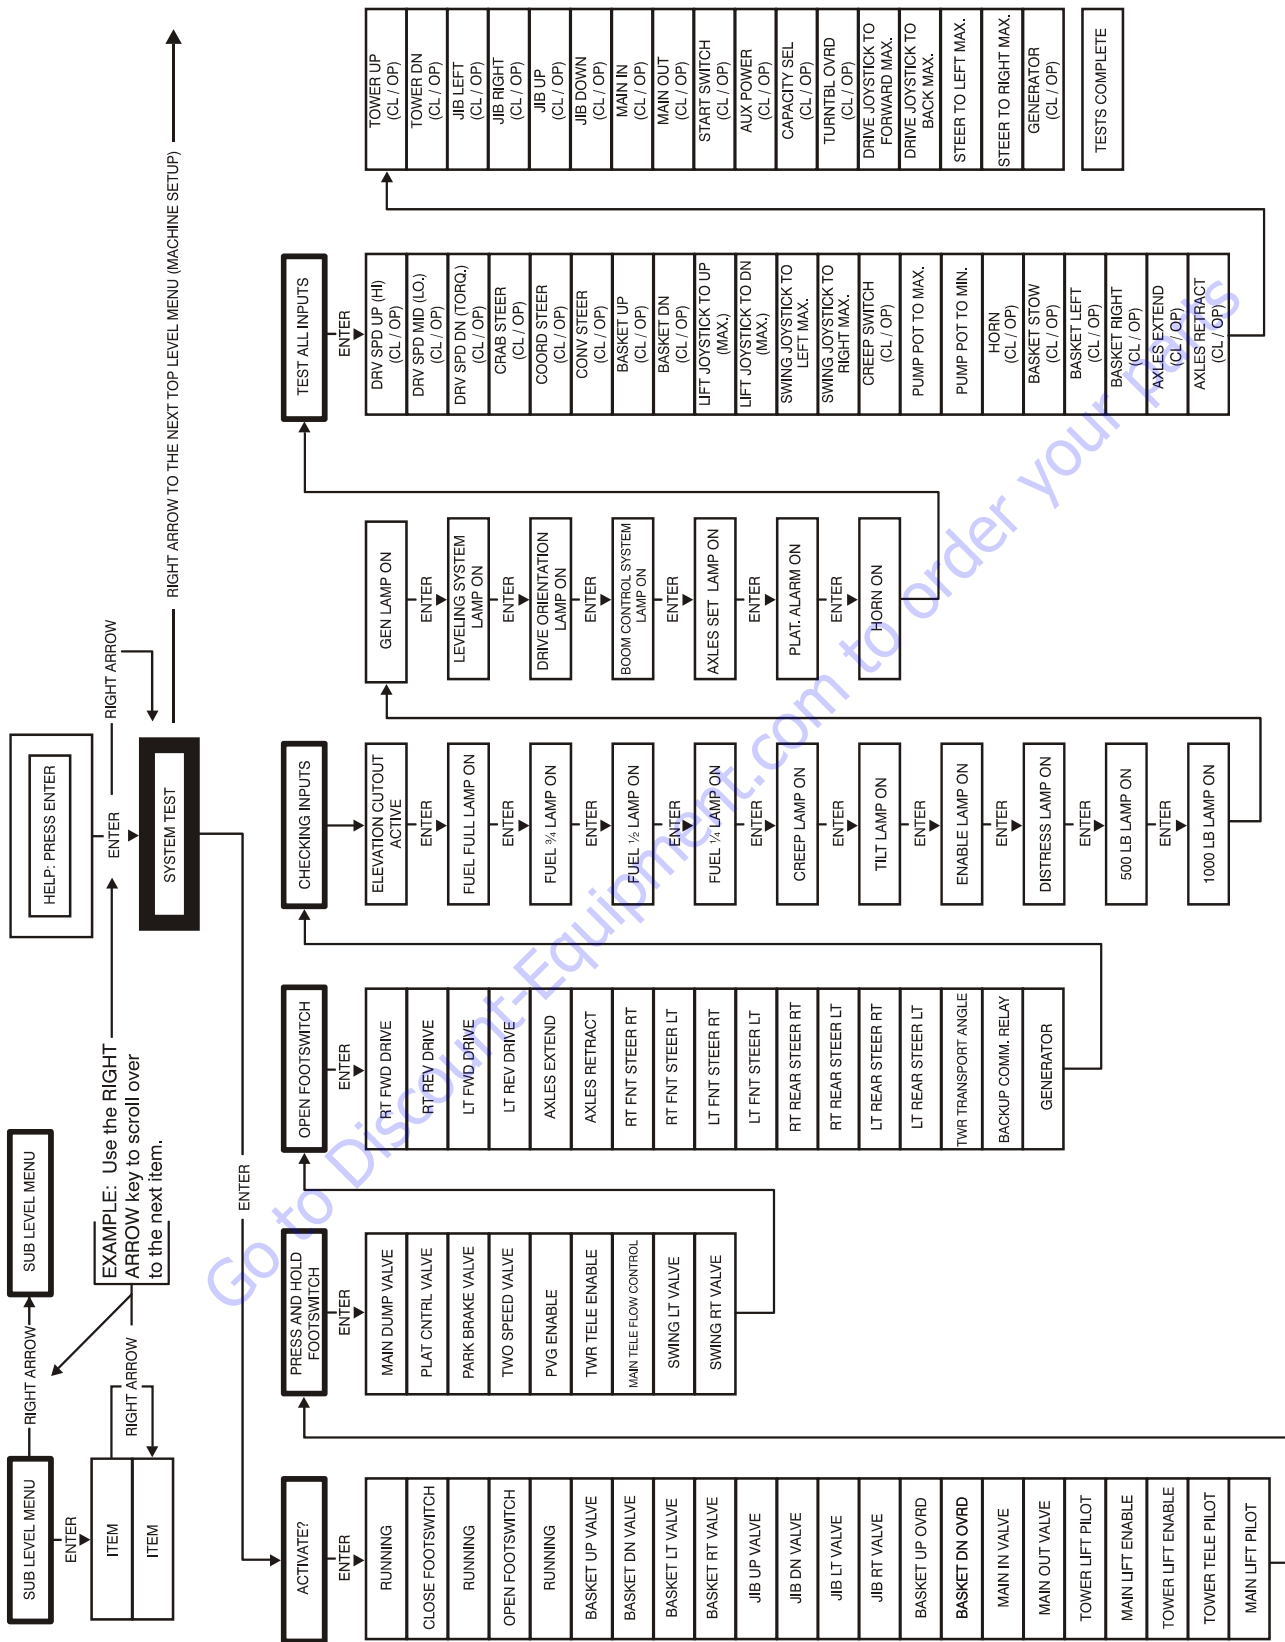

Figure 6-14. System Test Flow Chart - Platform Tests
7. Follow the flow path in Figure 6-14., System Test Flow Chart - Platform Tests and go through the component tests. Hit the ESC key during any part of the test to return to the main menu without completing all tests or wait until all tests are complete. During the TEST ALL INPUTS sequence, the analyzer allows control switches to be operated and shows if they are closed (CL) or open (OP).